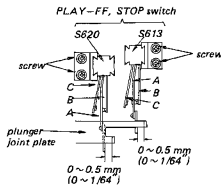

Fig. 3-22. PLAY--FF, STOP switch (S613, 620) position adjustment
1. Place the unit in the STOP mode. See Fig. 3-22. Make sure that the distance between the plunger joint plate and the leaf A of the leaf switch is 0 to 0.5 mm (1/64"), and also that the leaves A and B are in contact with each other completely. If necessary, adjust the switch position by loosening the screws.